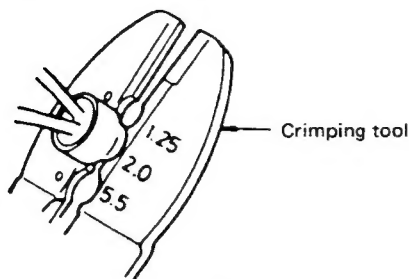

Fig. 6
- (4) As shown in Fig. 6, use the crimping tool to crimp the metal sleeve at the center position. Be sure to crimp fully to the complete closure of the tool.